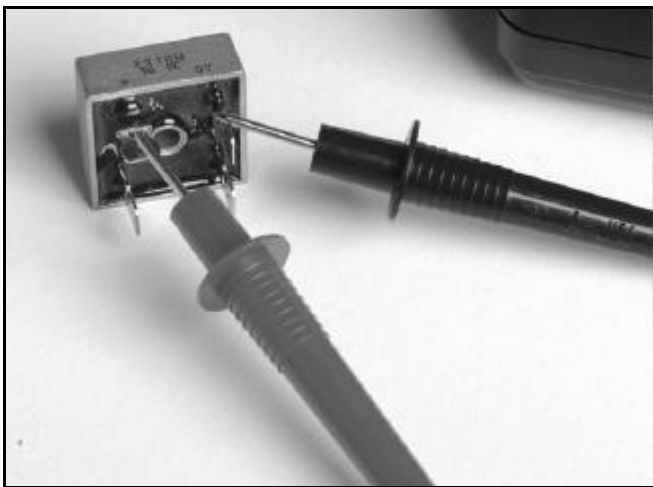

Figure 155
2. Check continuity between the terminals (two side by side terminals) on one side of the rectifier with a Volt-Ohmmeter (Figure 155). Note the results.